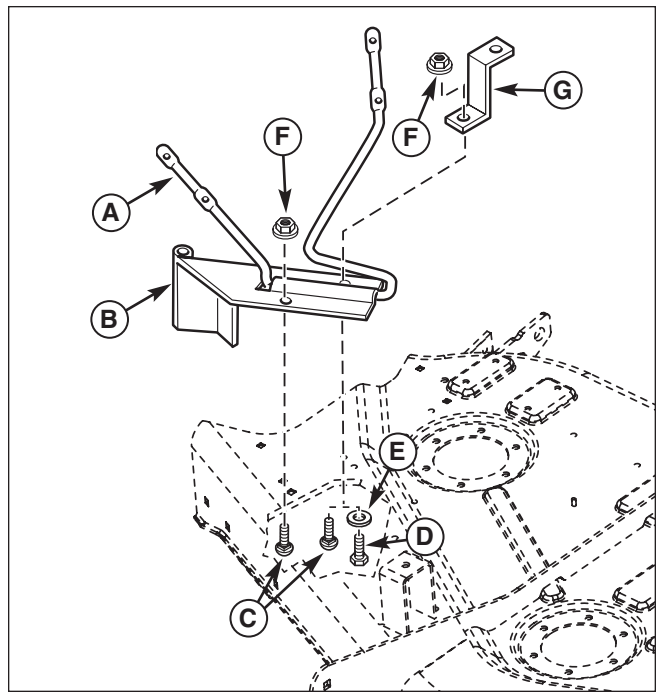
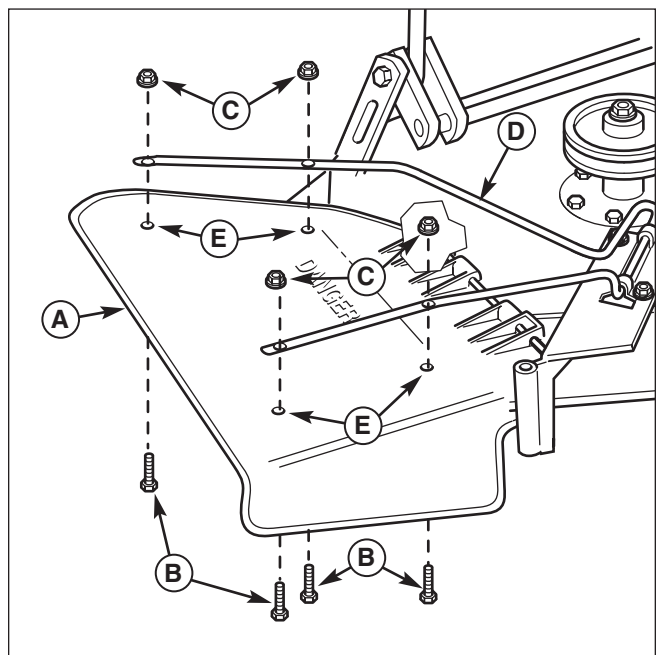

Figure 5. Install Deflector Hinge and Bracket
Figure 6. Install Deflector
1. Slide the deflector support rod (A, Figure 5) into pivot bracket (B) as shown.
2. Secure the front of the pivot bracket (B) using 5/16-18 x 3/4 carriage bolt and 5/16-18 nut (F).
3. **38" Mowers** - Secure the back of pivot bracket (B) and support (G) using 5/16-18 x 3/4 carriage bolt and 5/16-18 nut (F).
**44" and 50" Mowers** - Secure the back of pivot bracket (B) and support (G) using 5/16-18 x 7/8 capscrew, 5/16 washer (E) and 5/16-18 nut (F).
4. Drill four 13/64" holes from the bottom of the deflector (A, Figure 6) at the pre-molded drill hole locations (E).
5. Attach the deflector (A) to the rod (D) using the #10-24 screws (B) and #10-24 nuts (C).